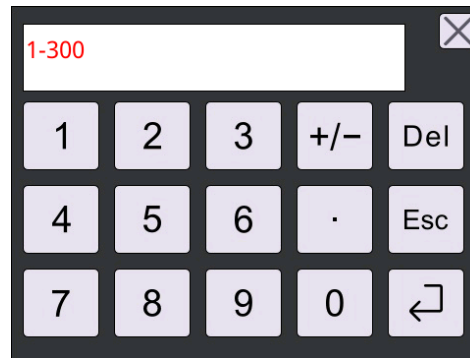

Figure 2-3
- 2、To set the operating parameters of the turntable, click the white area to pop up the input keyboard. The range of the parameter will be displayed in the input box. You can set the parameter through the input device as shown in Figure 2-3. Meanwhile, you can adjust the parameters through the button on the right side.